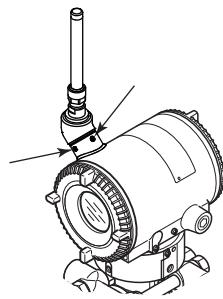

Figure 4.8 Mounting Screw Position
Adjust the direction of the antenna to be in the upright position. Figure 4.8 shows factory setup antenna position. If the transmitter is installed to vertical impulse piping, follow the procedure below and change the antenna position.
- 1) Loosen the two mounting screws at the bottom of the antenna by using a 2.5 mm Allen wrench (see Figure 4.8).